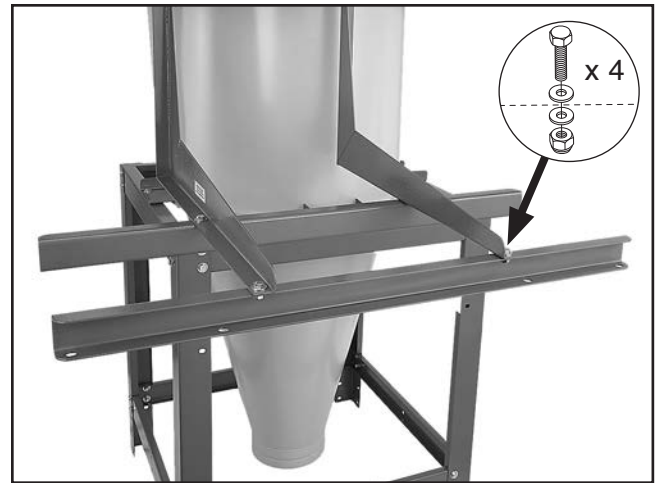

Figure 22. Filter cross braces attached to L-braces.
17. Attach two filter cross braces to L-braces, as shown in **Figure 22**, using (4) $\frac{3}{8}$ "-16 x $\frac{3}{4}$ " hex bolts, (8) $\frac{3}{8}$ " flat washers, and (4) $\frac{3}{8}$ "-16 hex nuts.